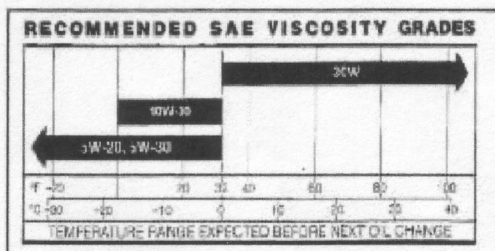

Figure 2. Viscosity Grades Table.
1. Be sure to use the proper oil for the temperature expected. See Figure 2 on page 1.